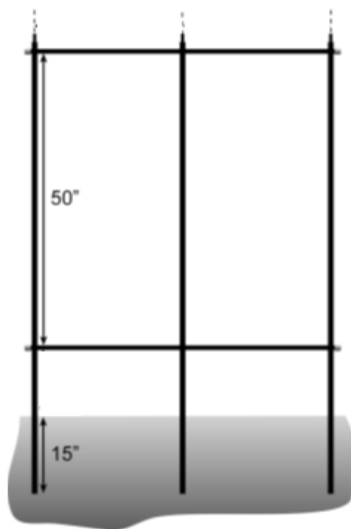

Figure 2: Spacing of the Pergola Cross Poles on the Uprights
- If you have chosen the lattice option you will need to position the Cross Poles, on the uprights, approximately 50" away from one another, as illustrated in Figure 2, to accommodate the lattice infill.